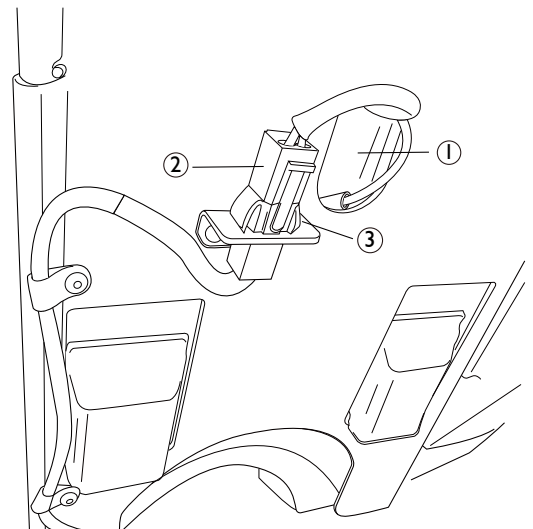

Figure 24. Seat electrical connection
2. Reach into the slot (Figure 24, item 1) in the middle of the seat plate to retrieve the electrical wire and connector from the upholstered seat (Figure 24, item 2) item.
3. Install the connector to the mating connector (Figure 24, item 3) on the seat plate.